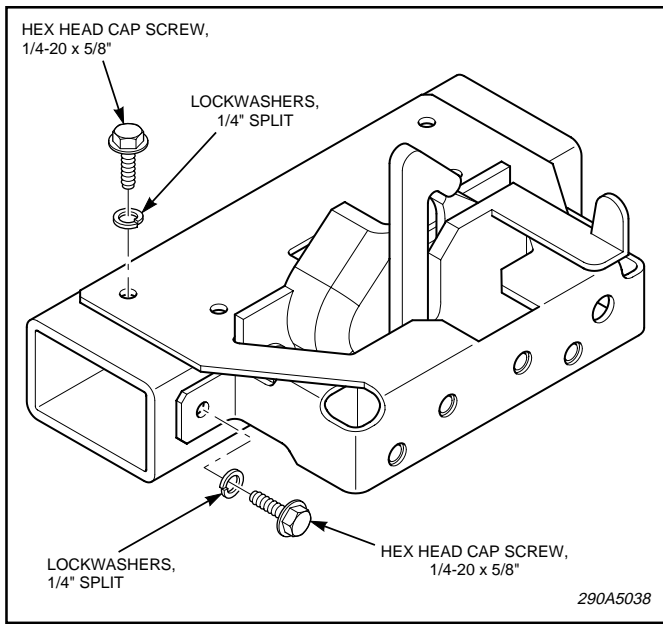

Figure 3.
g. Secure the main bracket to vehicle using five 1/4" x 5/8" thread-forming screws and split lockwashers. See figure 3.